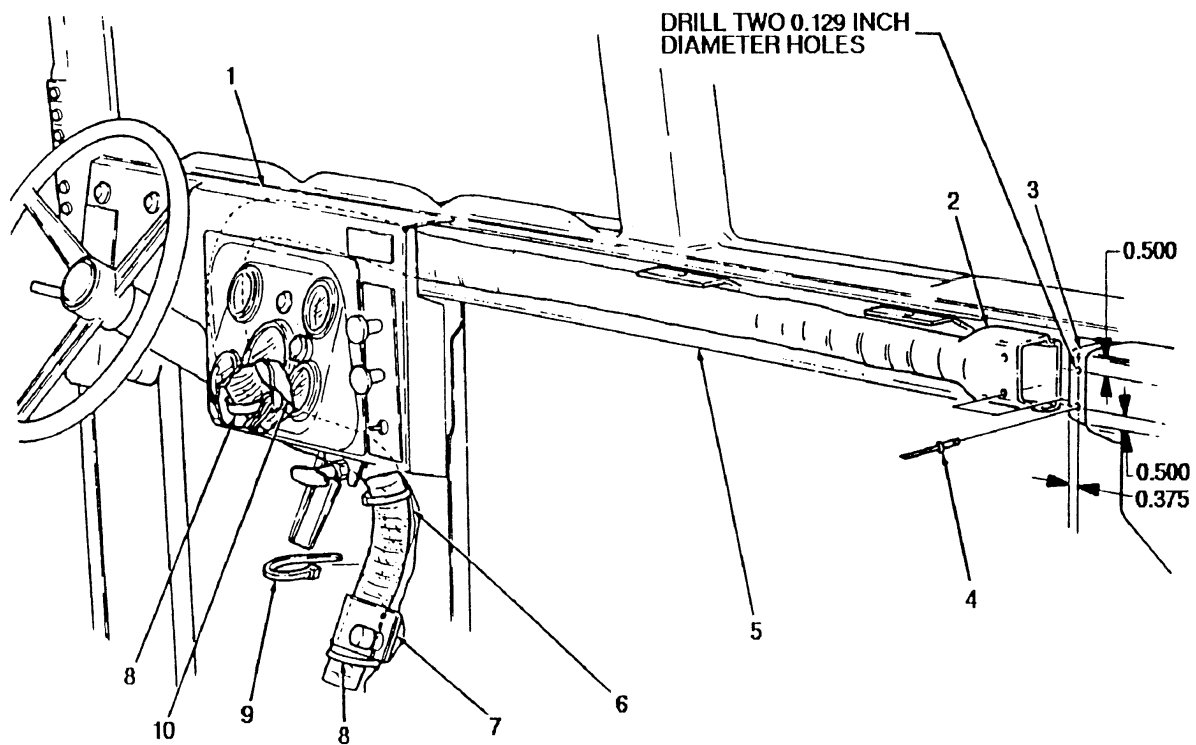

FIGURE 3-75
1. Route P/N 12447054 flexible duct (2) from diverter box (3) along 'A' beam (5), through dash (1), down to and through dimmer switch bracket (7). (see figure 3-75)
2. Install flexible duct (2) in diverter box (3).
3. Locate, mark, and drill two 0.129-inch diameter holes in diverter box (3) and flexible duct (2).
4. Remove flexible duct (2) and apply RTV 736 sealant around the area of the flexible duct (2) that is to be installed in diverter box (3). Then install flexible duct (2) in diverter box (3).
5. Install two NSN 5320-01-134-8671 rivets (4) in diverter box (3) and flexible duct (2).
6. Secure flexible duct (2) to steering column mount (10) and dimmer switch bracket (7) with two clamps (8).
7. Secure flexible duct (2) to dimmer switch wire harness (6) with three NSN 5975-01-034-5871 tiedown straps (9).